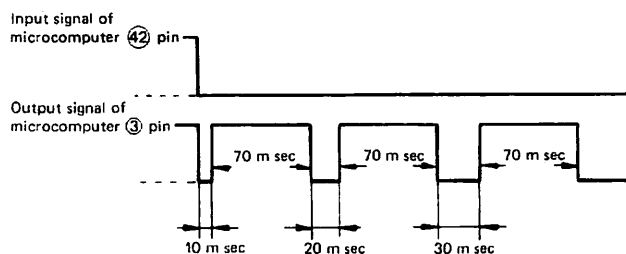

Figure 14-2 Tracking error input and corrected output
At the start of playing the side A of a record, the tonearm is kept slantwise the angle of which is detected by the photo interrupter LED509 (now there is a light emission to the LED509), and the resultant signal ("high" level) is applied to the base of Q518 so that this transistor turns on. With Q518 turned on, the "low" level signal is applied to pin ④ of the microcomputer. Then the signal goes out of pin ③ of the microcomputer, which is a pulse shown in Fig. 14-2, and drives the cartridge motor, thus causing the tonearm to move forwards. As the tonearm further moves forwards, it keeps itself horizontal so that its slanting angle is no more detected by the LED509 (now there is no light emission to the LED509). Then the output of LED509 becomes "low" level to turn off Q518, so that pin ④ of the microcomputer becomes "high" level to stop rotation of the cartridge motor. If by accident the angle of the cartridge becomes slanted, the microcomputer program is that the cartridge be kept in a stop not moving forwards. This is because pin ④ of the microcomputer can accept the cartridge angle's information only when the muting circuit is open.